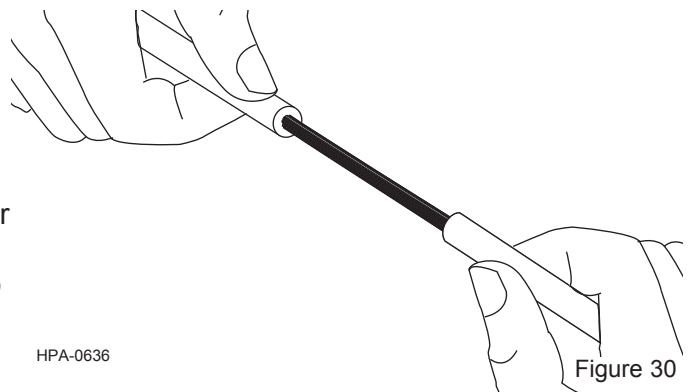

Figure 30
**Step 4:** Massage the jacket along the length to separate the dielectric strength members (yarns) and fiber from the jacket. As you pull, you will feel and hear the jacket separate from the yarns. Remove the 12 inch.(30 cm) of jacket to expose the yarns and fiber (Figure 30).